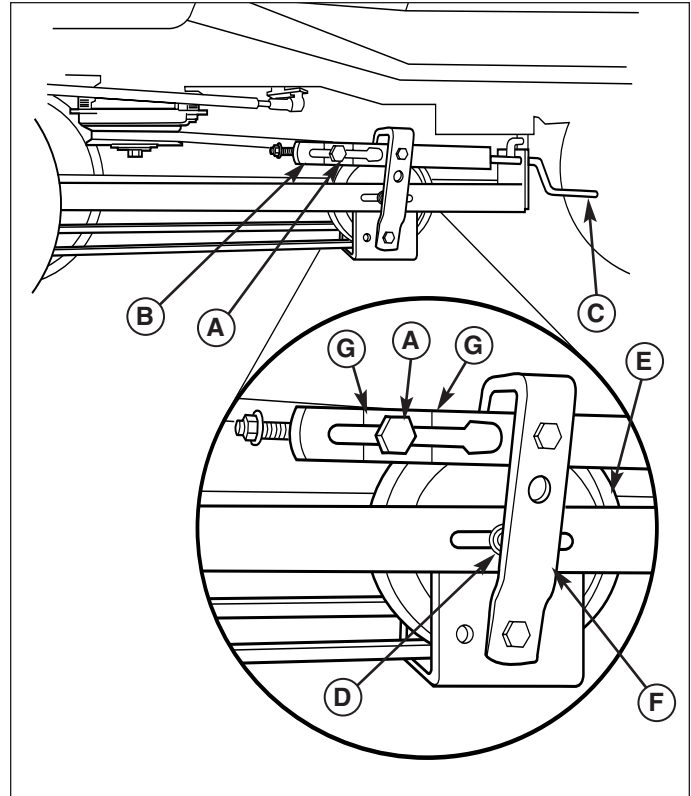

Figure 11. Adjusting Belt Tension
1. With the snowthrower drive belt installed, trunnion (A, Figure 11) should be between marks (G) on spring tension bracket (B) for correct belt tension.
2. Turn belt tension handle (C) to move trunnion (A) forward or rearward until it is between marks (G).
3. If trunnion cannot be placed between marks, loosen capscrew (D) and reposition idler pulley (E) as necessary. The pivot bracket (F) should be perpendicular to the hitch. Retighten capscrew (D) and repeat step 2.
1. Loosen the drive belt by turning the handle (C, Figure 11).